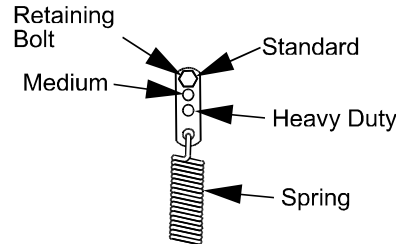

FIGURE 16
- For a heavier drive setting, relocate the spring anchor link to either the “medium” or “heavy duty” positions as shown in Figure 16. The spring anchor links are attached to the upper rear corner of the hydro drive shields on the left and right hand sides of the machine.